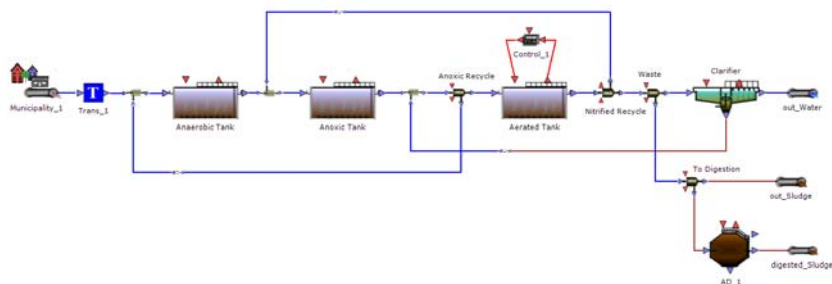

Figure 13.2 Final layout for the PWM_SA experiment
- Modify the template UCT layout, as follows - the final layout is shown in Figure 13.2